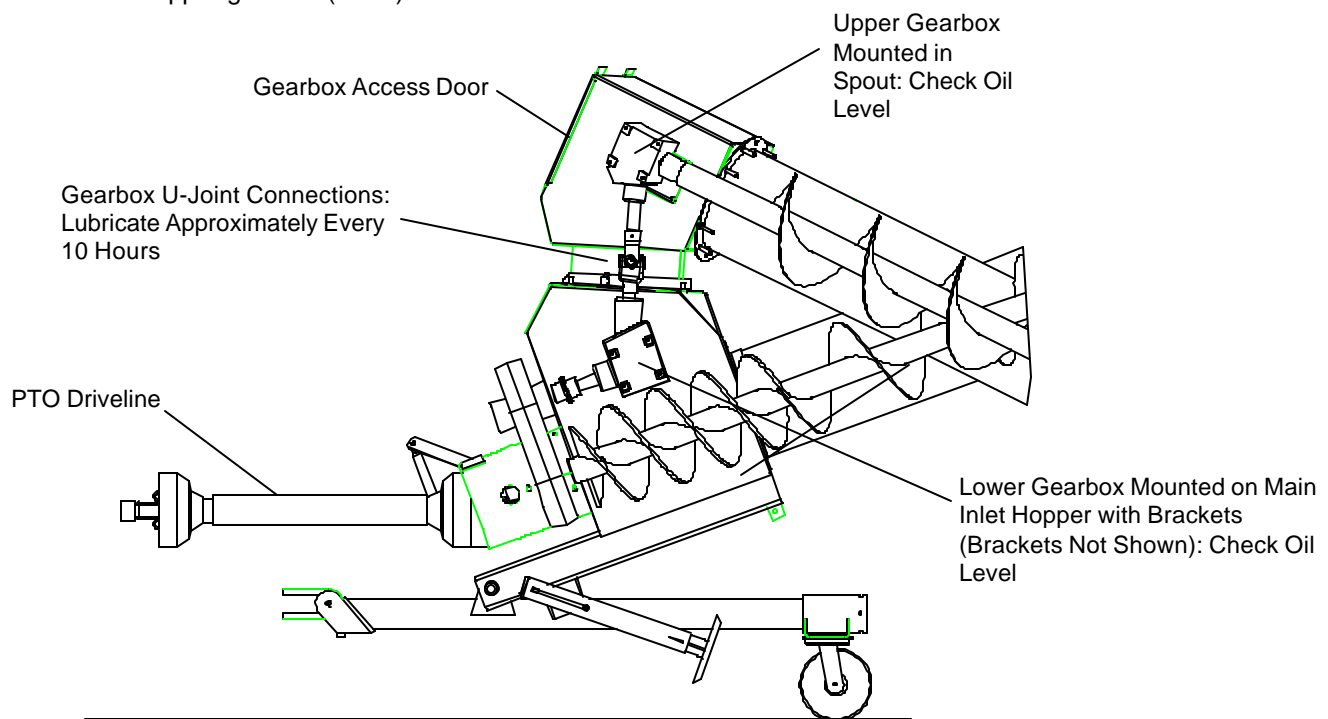

Fig. 6
A. Fig. 6 on page 47, identifies the two (2) gearbox u-joints that require lubrication. Lubricate these every ten (10) hours using a SAE multipurpose type grease. Use a grease gun with a rubber hose tip.